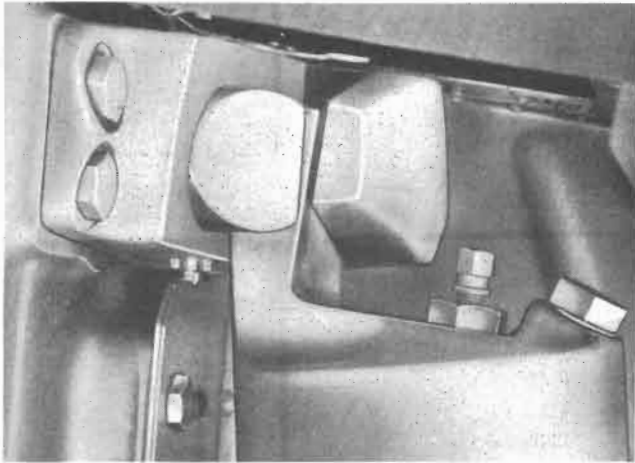

Figure 112 — Extended Position Latch
2. EXTENDED POSITION LOCK MECHANISM.—(See figure 112.)—As the landing gear reaches the "DOWN" position, a boss at the top of the shock strut slides into the slot of a steel lock fitting which is bolted to the landing-gear support casting. When the landing-gear strut has reached its fully extended position, the spring-loaded lockpin snaps into place behind the boss, thus securely locking the landing gear in the "DOWN" position. Should the springs behind the lockpins fail to move the pin forward to the locked position, the lockpins can be manually forced into place by moving the front cockpit landing-gear control handle down to the extreme end of the sector to the "EMERGENCY" position. The lockpins are released when the landing gear control handle is moved to the "UP" position.